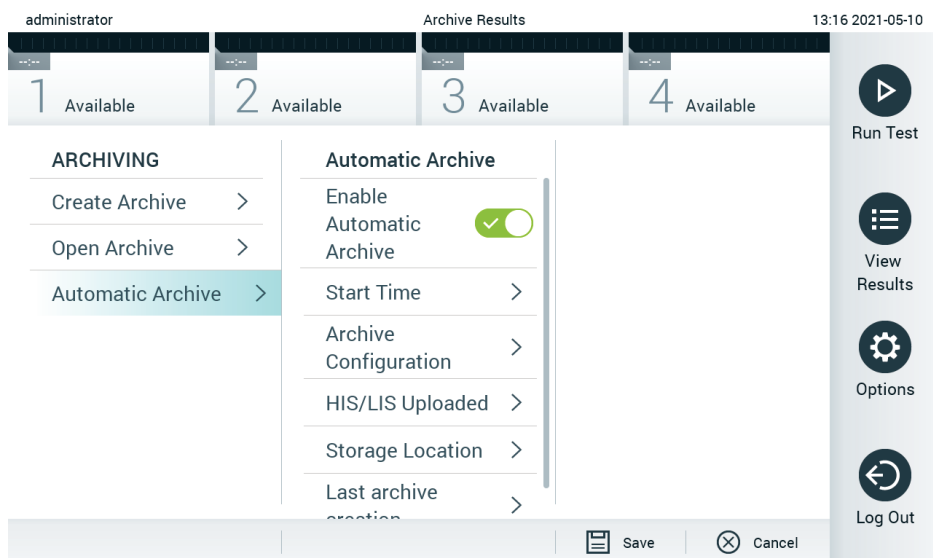

Figure 58. Automatic archive options.
2. Press **Automatic Archive** and enable the feature (Figure 58).